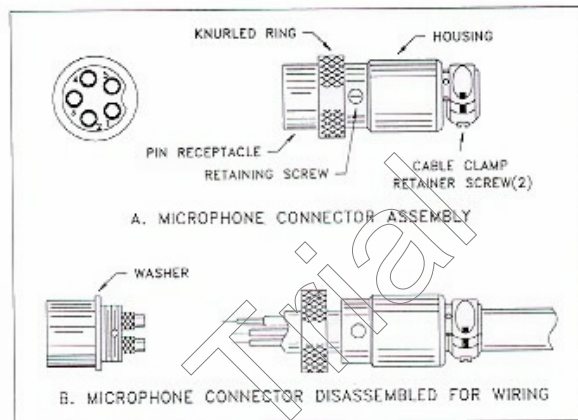

Fig 2 Microphone plug wiring
4. Feed the microphone cable through the housing, knurled ring and washer as shown Figure 2.